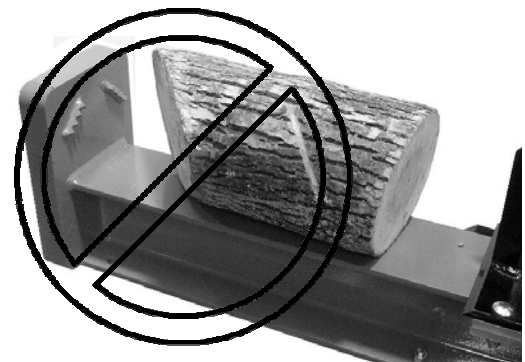

Figure 31
7. Make sure both ends of the log you are splitting are cut as square as possible (**Figure 31**). This will prevent the log from sliding out of position while under pressure. All logs should be 24 inches or shorter in length.